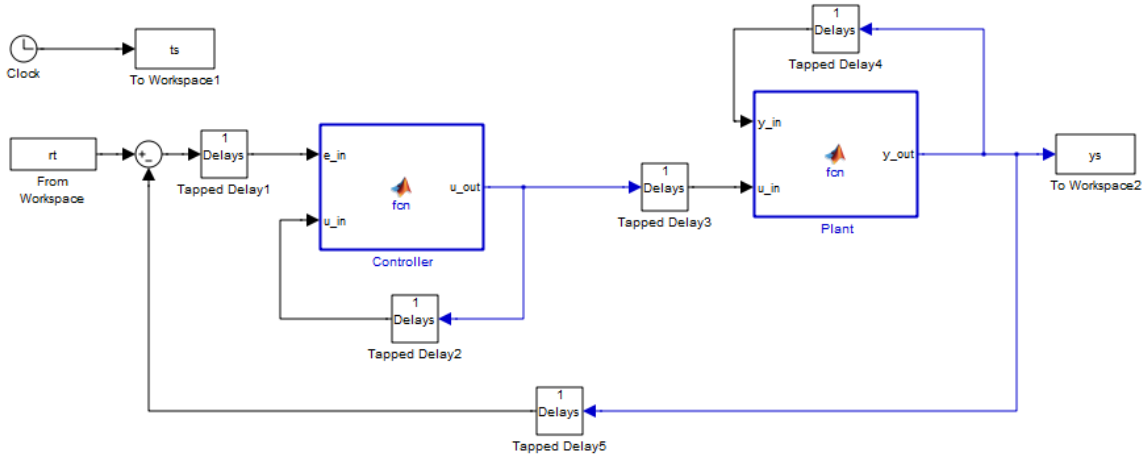

Figure 4. Finals version of closedloop_DE.mdl.
e) Copy the file **closedloop_DE.slx** to the file **closedloop_DE2.slx** (so we don't screw up what is already working) and modify **closedloop_driver.m** to run this new file. Open both **closedloop_DE2.slx** and **openloop_DE.slx**. Select the plant model (the input, output, and feedback elements) from **openloop_DE** and copy them to **closedloop_DE2**. After some editing, your final system should look like that shown in Figure 4. Note that the input to the plant is now **u_in**. To make this change, you will need to edit the Plant block and code.